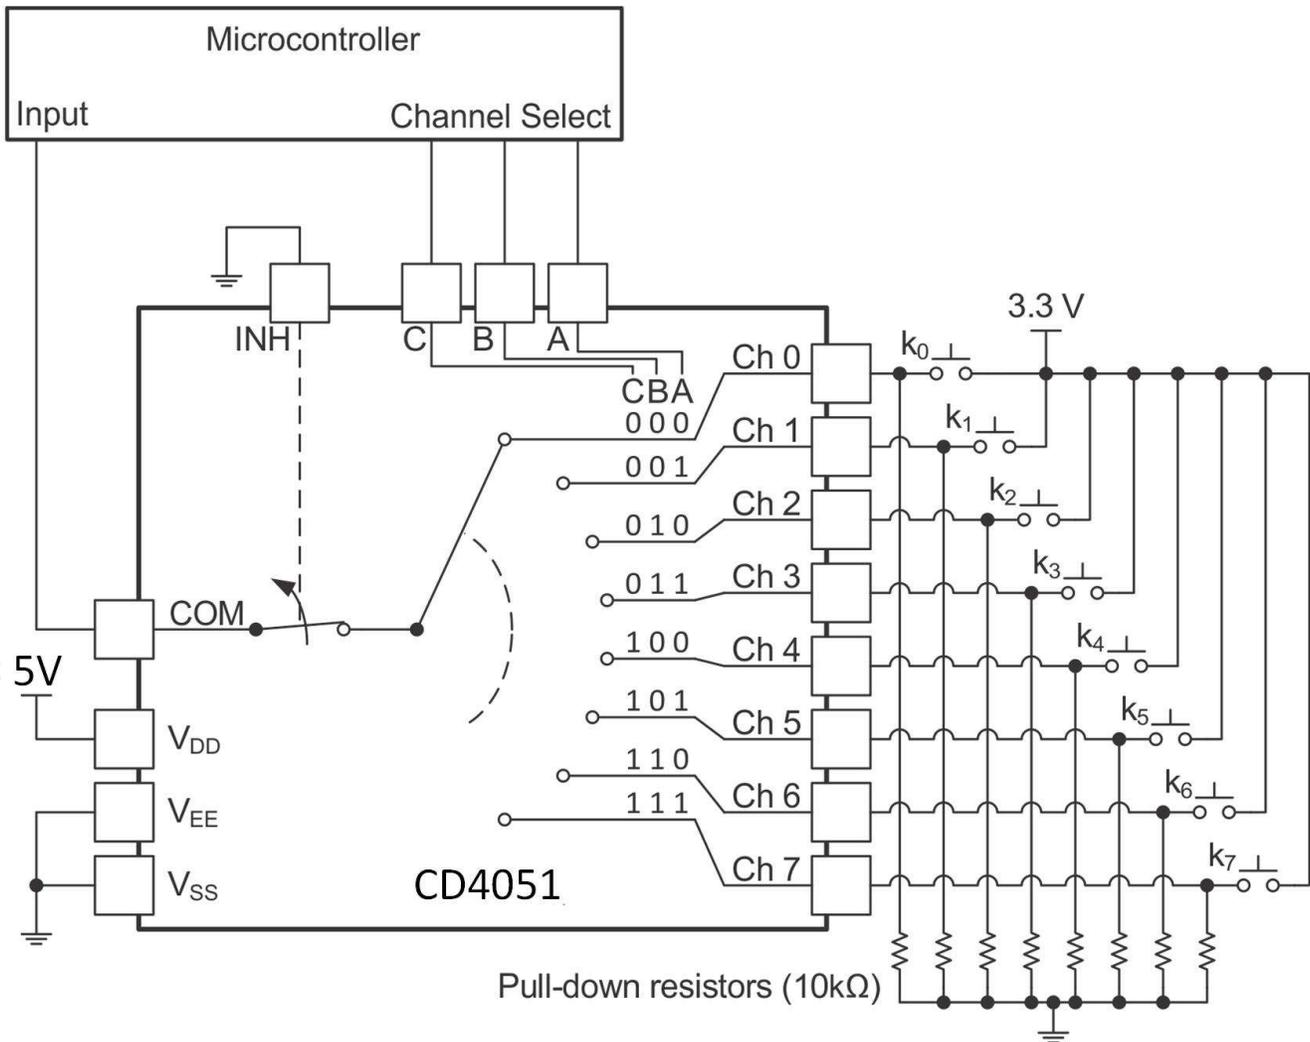

図 8-1. The CD4051B Being Used to Help Read Button Presses on a Keypad
One application of the CD4051B is to use it in conjunction with a microcontroller to poll a keypad. 図 8-1 shows the basic schematic for such a polling system. The microcontroller uses the channel select pins to cycle through the different channels while reading the input to see if a user is pressing any of the keys. This application is a very robust setup, allowing for multiple simultaneous key-presses with very little power consumption. This setup also uses very few pins on the microcontroller. The down side of polling is that the microcontroller must continually scan the keys for a press and can do little else during this process.
• Updated Figure 8-1 to 5V VDD.....	<a href="#">19</a>